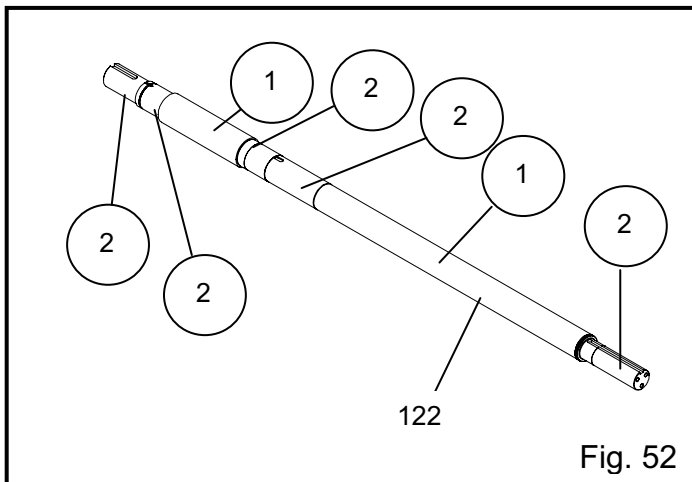

Fig. 52
1. Check the shaft (122) for straightness, wear, corrosion, and radial run-out. Maximum run-out for non-contact portions of the shaft is .003 in. max., see Fig. 52.